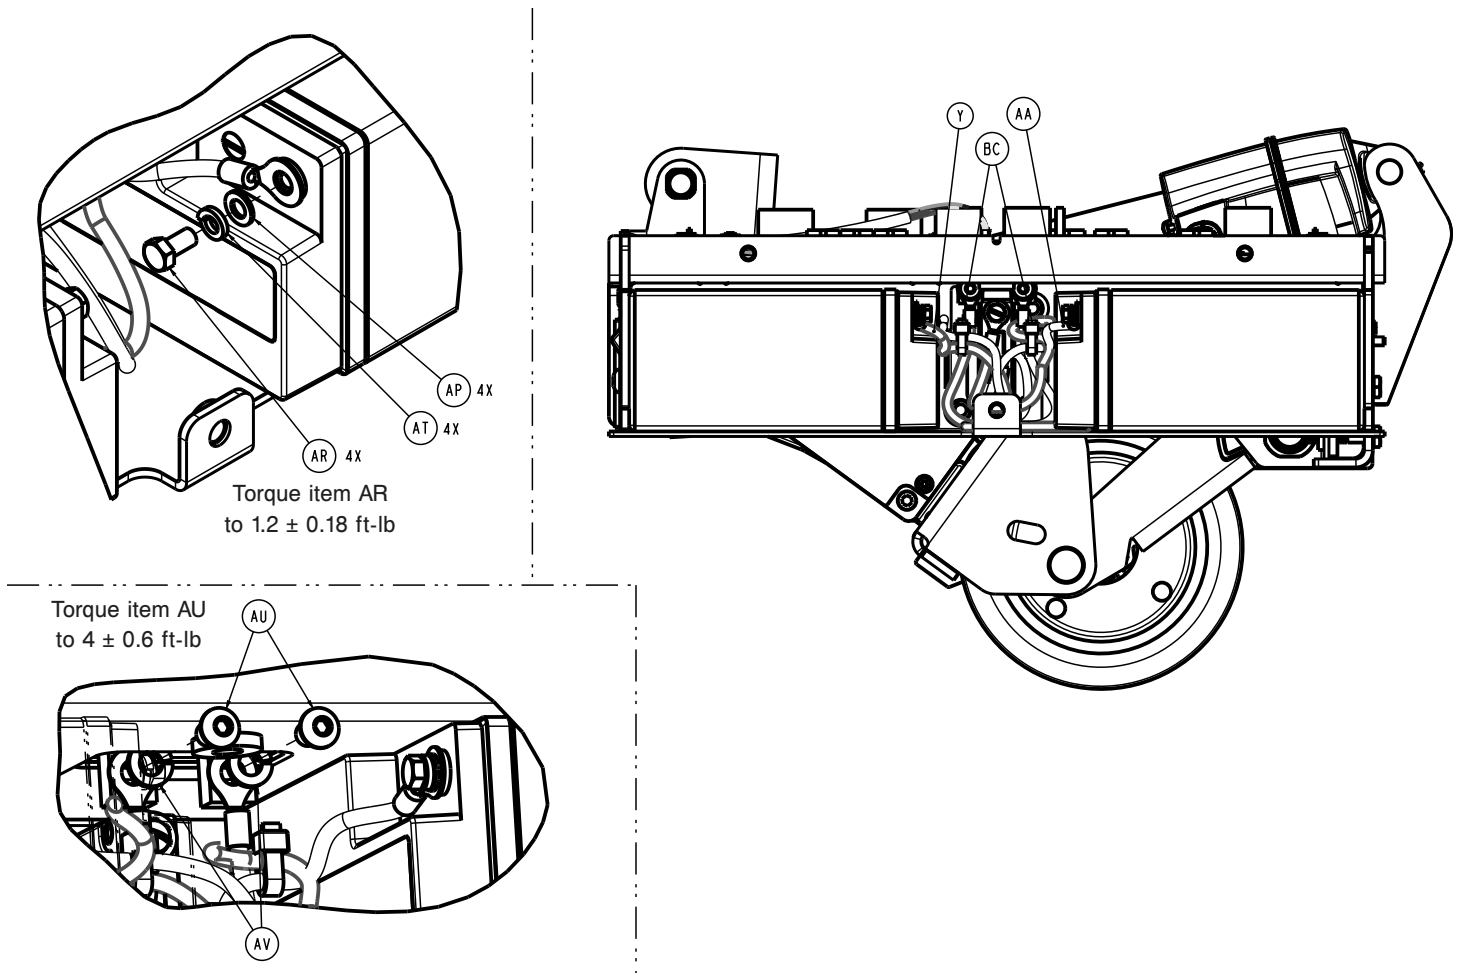

Figure 47 – Removing the batteries
11. Using a 5/16" socket and ratchet, remove the bolt (AR), lock washer (AT), and flat washer (AP) that secure the positive wire (red) and the negative wire (black) to the battery (Figure 47). Save the bolt and washers. Repeat for the other battery.
17. Using a 5/32" hex wrench, remove the two screws (AU) and lock washers (AV) from the battery wires to remove the board (Figure 47).